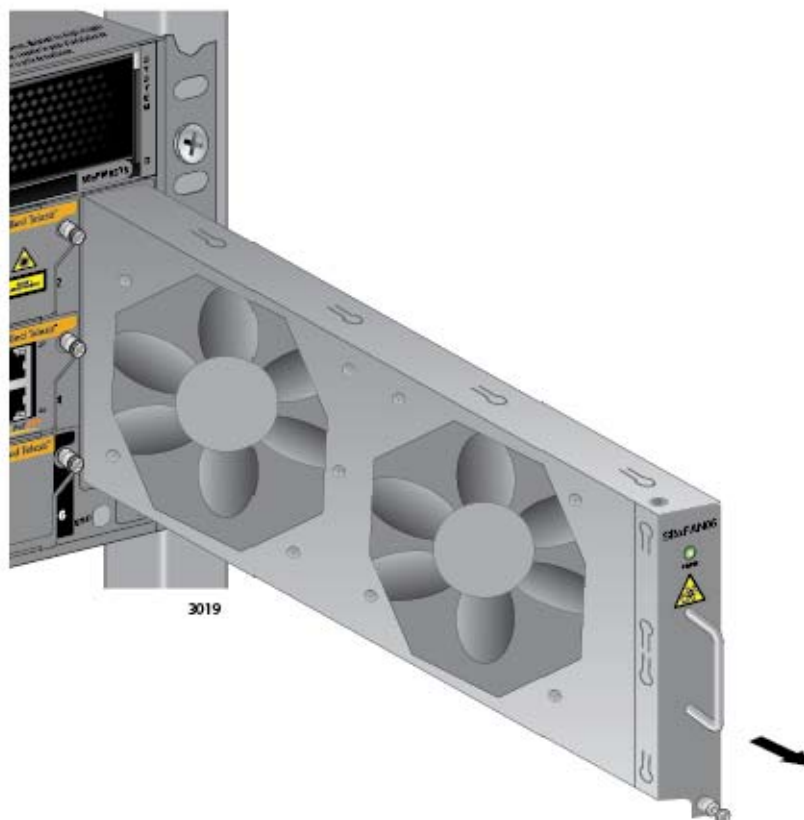

Figure 150. Removing the AT-SBxFAN06 Fan Module from the Chassis
6. After the fans have stopped, slide the module from the chassis. Refer to Figure 150 on page 238.